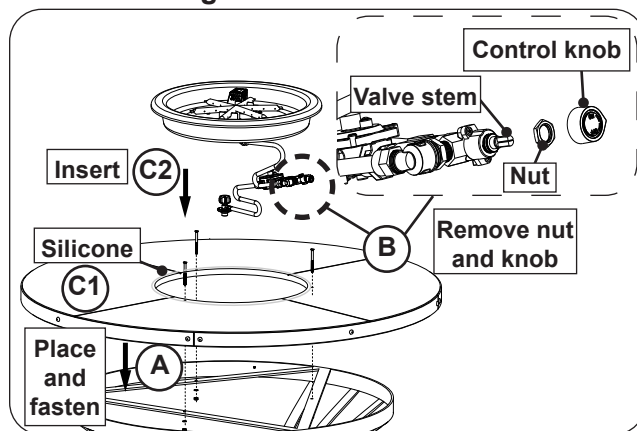

Fig. 29-3 Place top and fasten, place burner
4. **Carefully** place the top on the unit, ensuring that the holes in the top piece align with the holes found in the bracket below (see Fig. 29-3, A).
5. Use a flathead screwdriver and the supplied bolts (3), nuts (3), and washers (3) to fasten the top to the bracket as shown in Fig. 29-3, A.
6. Locate the valve and burner assembly. Remove the control knob. Use a 20mm socket to remove the nut attached to the valve stem. See Fig. 29-3, B.
Then apply silicone along the top, and then drop the valve and burner assembly into the opening in the center of the firetable top as shown in Fig. 29-3, C1 and C2.